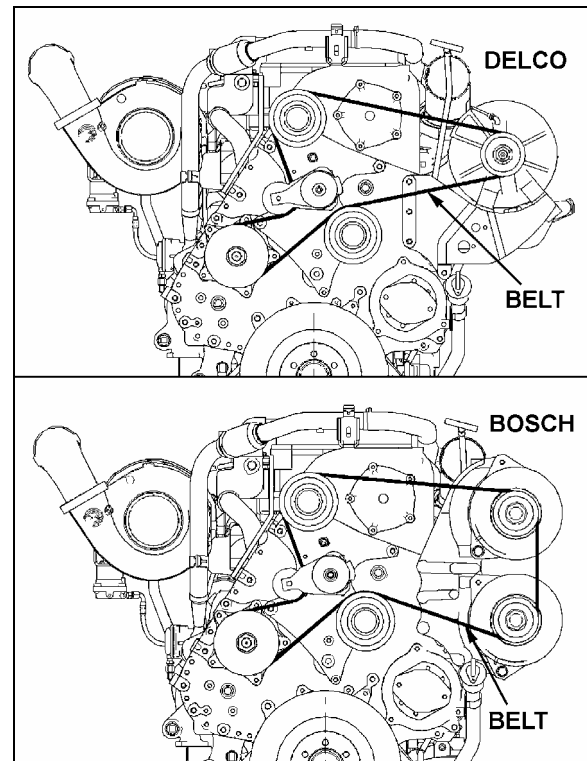

FIGURE 39: ALTERNATOR DRIVE BELT
1. Insert a ¾" socket drive into the tensioning arm opening (Fig. 39).